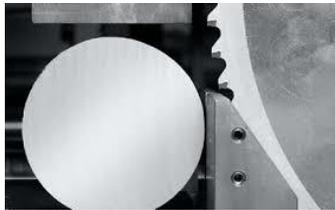

Figure Saw-4: a saw machine blade
5. Select and hold a suitable blade. See figure Saw-4.